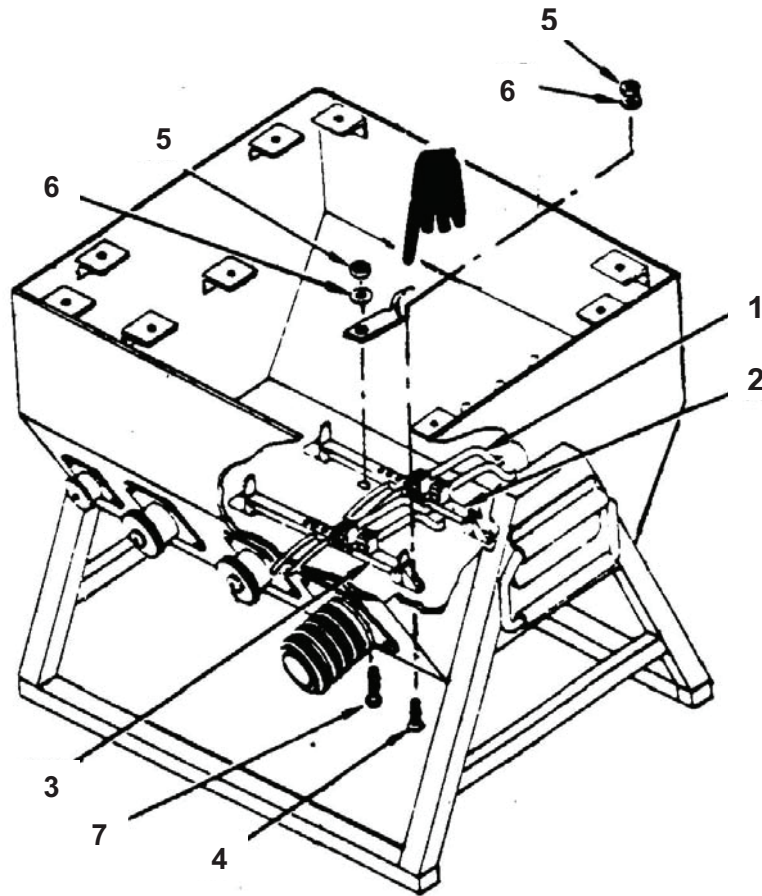

Figure 4. PDISE Bus Bar and Grounding Strap
10. Tag and disconnect wiring (Figure 4, Item 1) from ground (Figure 4, Item 2) and neutral (Figure 4, Item 3) bus bars.
11. Remove screws (Figure 4, Item 4), nuts (Figure 4, Item 5) and washers (Figure 4, Item 6) securing bus bar. Remove bus bars.
12. Remove screw (Figure 4, Item 7), nut (5) and washer (6) securing ground strap.
15. Install neutral (Figure 4, Item 3), and ground (Figure 4, Item 2) bus bars and secure with screws (Figure 4, Item 4), washers (Figure 4, Item 6), and nuts (Figure 4, Item 5).
16. Install screw (Figure 4, Item 7), washer (6) and nut (5) securing ground strap.
17. Refer to tags and connect wiring (Figure 4, Item 1) to bus bars.